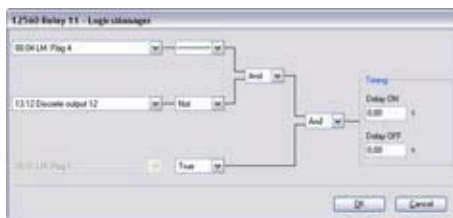

Fig. 166: LogicsManager function "Relay 11"
1. Configure the LogicsManager function "Relay 11" as shown in (Fig. 166).